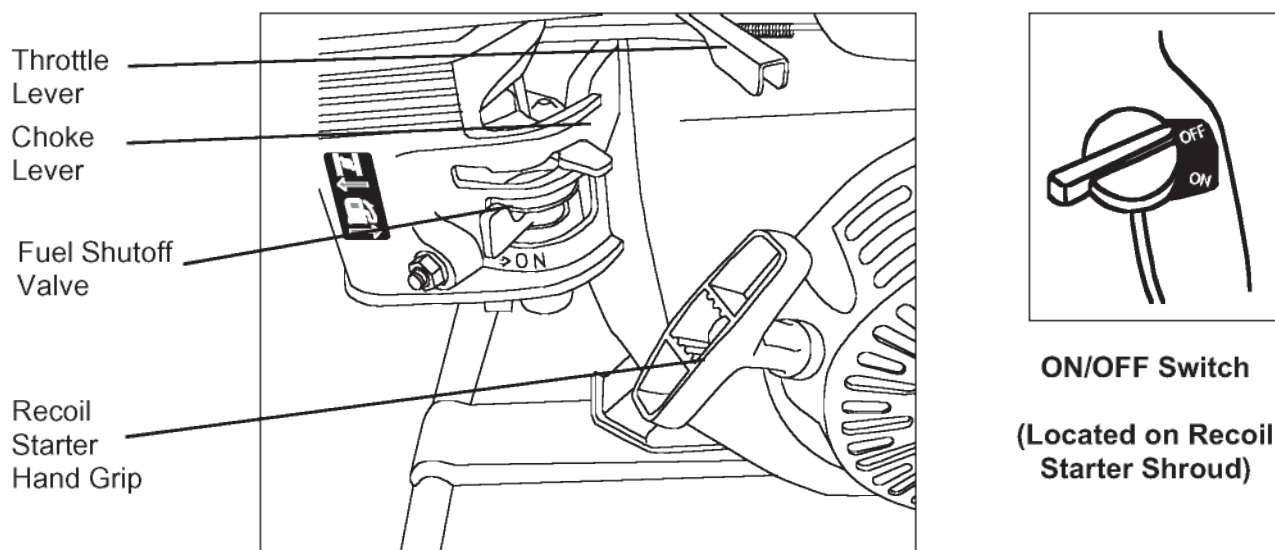

FIGURE-3
4.1.2 The controls consist of a throttle lever (for speed control), choke lever (for cold weather starting), fuel shutoff lever (to prevent fuel spills), and a recoil starter (to turnover engine by hand). (Refer to Figure-3.)